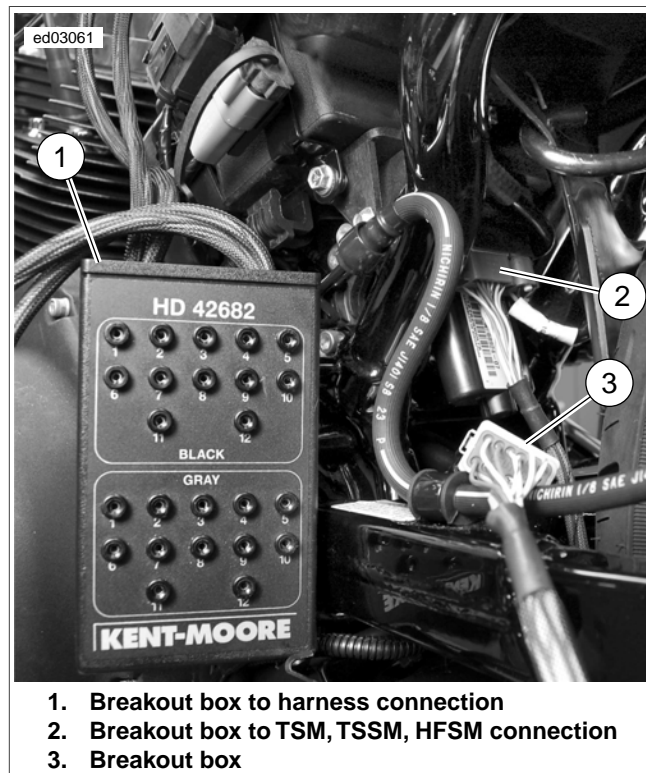

Figure 1-26. Breakout Box Connection Point at TSM, TSSM, HFSM (Typical)
3. See Figure 1-26. Connect BREAKOUT BOX (Part No. HD-42682) to connectors.